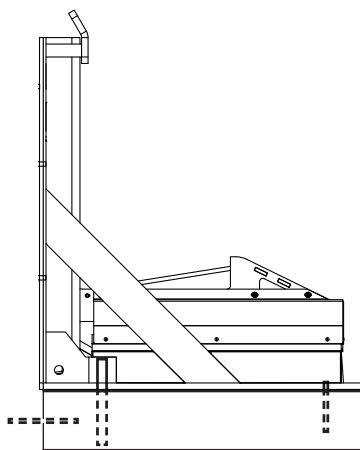

Figure 14
At rear of Stop-Tite, drill 1-1/8" dia. x 7" deep holes and install two (2) 1" dia. adhesive anchors. At front of Stop-Tite, install two (2) 3/4" dia. x 5-1/4" min. wedge anchors. See Figure 14.